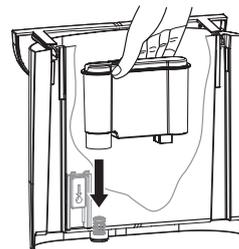

fig. 13: Inserting the water filter
5. Insert a new water filter (fig. 13).